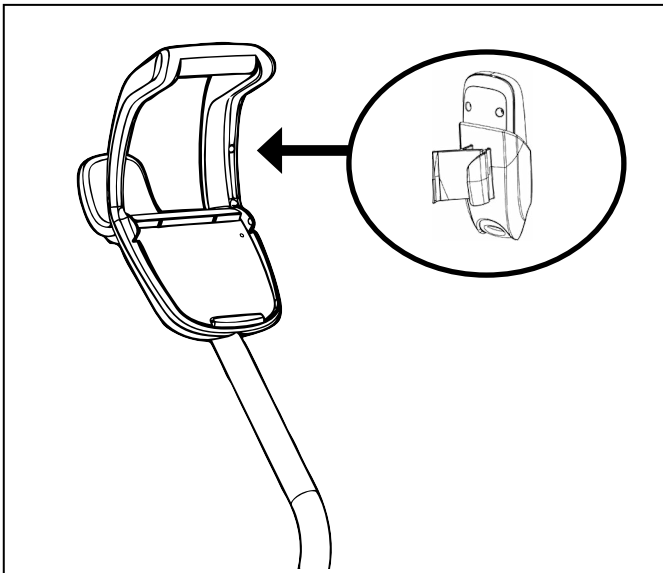

Figure 8. Snap Remote Control Holder into Place
- (9550 Sport/P955) Locate pin on the remote control holder and align it with the receptacle on the handle of the caddy to attach the remote control unit to caddy (Figure 8).